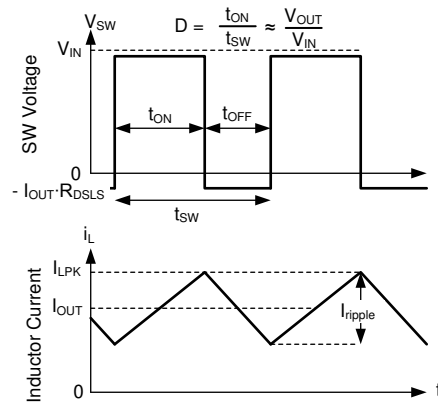

Figure 8-21. SW Voltage and Inductor Current Waveforms in Continuous Conduction Mode (CCM)
The following operating description of the LM62435-Q1 refers to Section 8.2 and to the waveforms in Figure 8-21. In CCM, the LM62435-Q1 supplies a regulated output voltage by turning on the internal high-side (HS) and low-side (LS) NMOS switches with varying duty cycle (D). During the HS switch on-time, the SW pin voltage, V_{SW} , swings up to approximately V_{IN} , and the inductor current, i_L , increases with a linear slope. The HS switch is turned off by the control logic. During the HS switch off-time, t_{OFF} , the LS switch is turned on. Inductor current discharges through the LS switch, which forces the V_{SW} to swing below ground by the voltage drop across the LS switch. The converter loop adjusts the duty cycle to maintain a constant output voltage. D is defined by the on-time of the HS switch over the switching period: